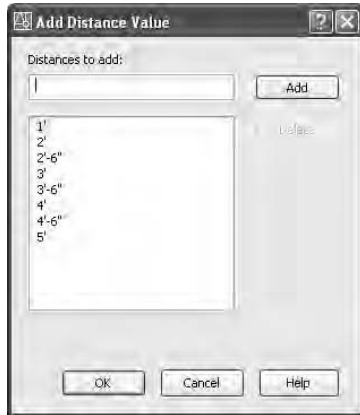

FIGURE C.10: The Add Distance Value dialog box
5. Move the arrow onto this button and click to open the Add Distance Value dialog box (see Figure C.10). Here you can change the increments for the width. A cursor is flashing in the Distances To Add text box.